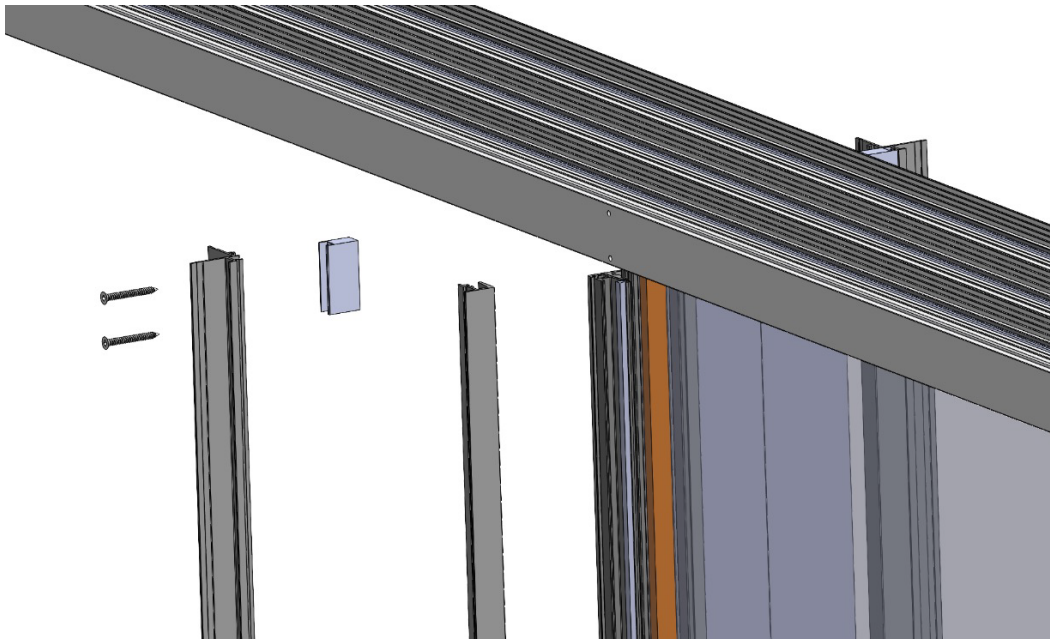

Figure 11
19. Install the post interlock frame member(s) using the pre-drilled holes in the head. Anchor the post interlock members using #10x1.25" screws. Figure 11 shows the exploded view of the post interlocker assembly, consisting of the two-piece post interlocker, assembly screw, and spacer block. The groove in the spacer block should be facing away from the sill/head.